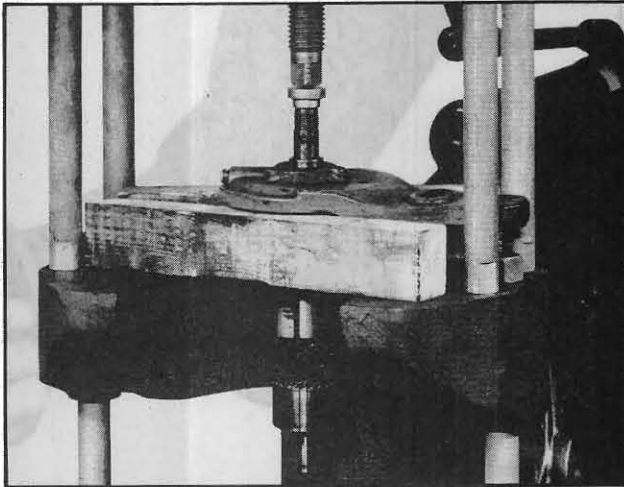

Fig. 196
4. Remove the nut, pulley and woodruff key from the end of the armature shaft and press the armature shaft out of the end plate, as shown in Fig.196. The spacer collar can then be removed.